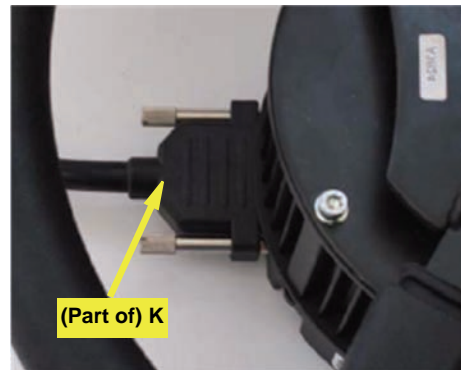

Figure 6b: Junction box comms cable connected to steering wheel assembly
c. Clip the junction box **K** into place on its bracket **L** (neither shown) then connect **K**’s 15-pin connector cable to the communications port on the steering wheel assembly (Figure 6b). Use clip **O** suitably (not shown).